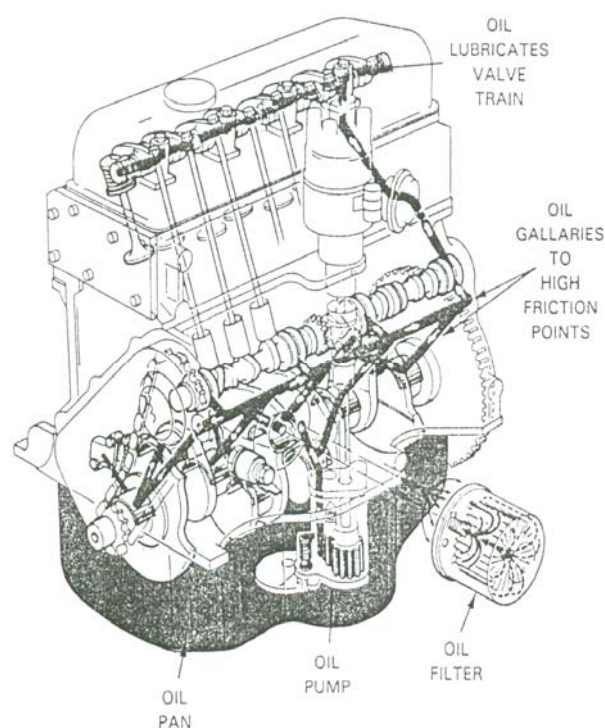

Рис. 5
1. *Motor oil (lubricant* of moving parts in engine). (рис.5)